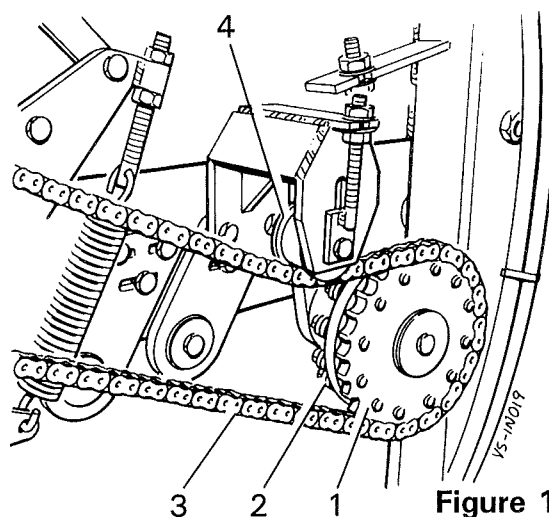

**Figure 17**
The 2nd web is sprocket driven on the web belting and the drive shaft is mounted on the return side of the web to allow only a small drop onto the cleaner unit. To accommodate the variation in web length that occurs when raising and lowering the cleaner unit, the web is fitted with a pair of spring loaded tension rollers (*item 1, figure 17*). The pressure exerted by the tension rollers should be set with the cleaner in its mid-angle position using the adjusters (*item 2, figure 17*).